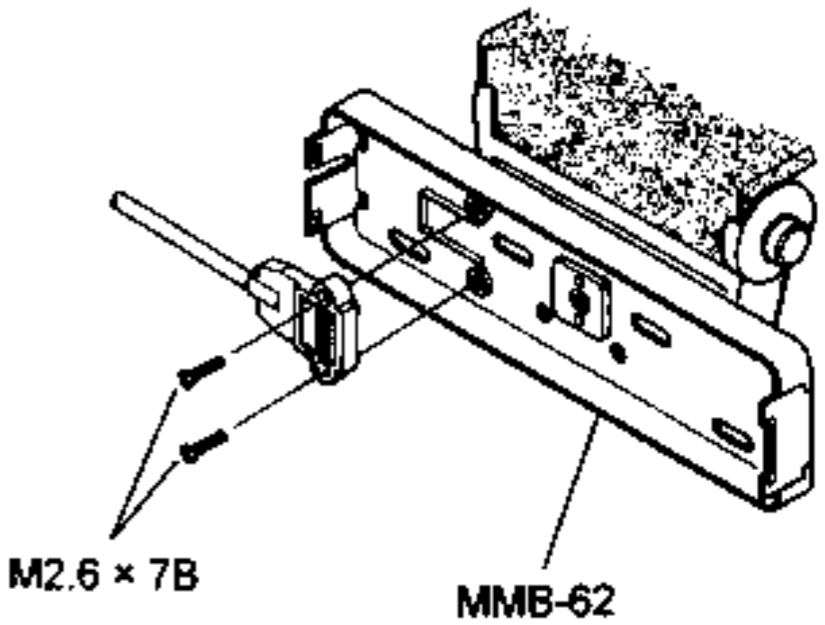

Figure 6
- Using the two supplied 7mm (1/4-inch) machine screws, refer to Figure 6 and mount the free end of the cable inside the Controller Nest.